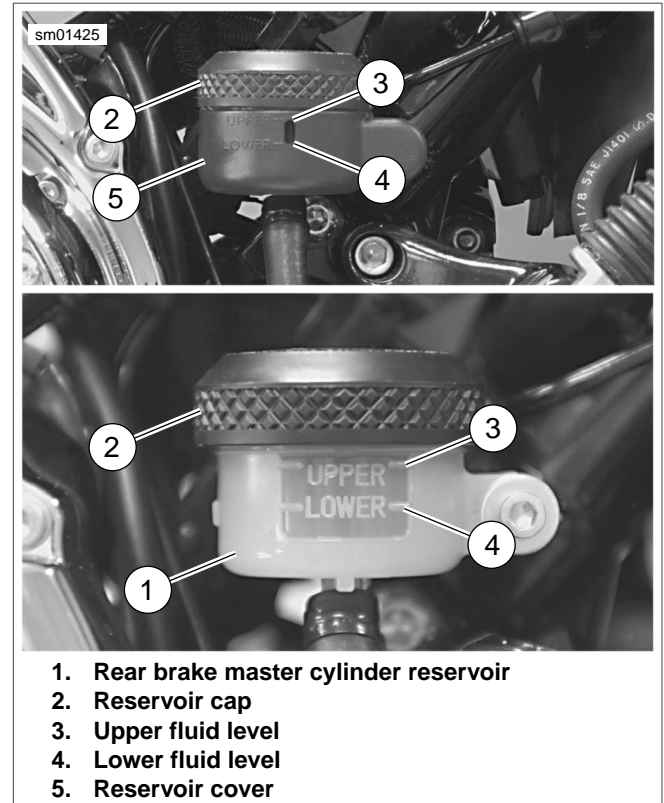
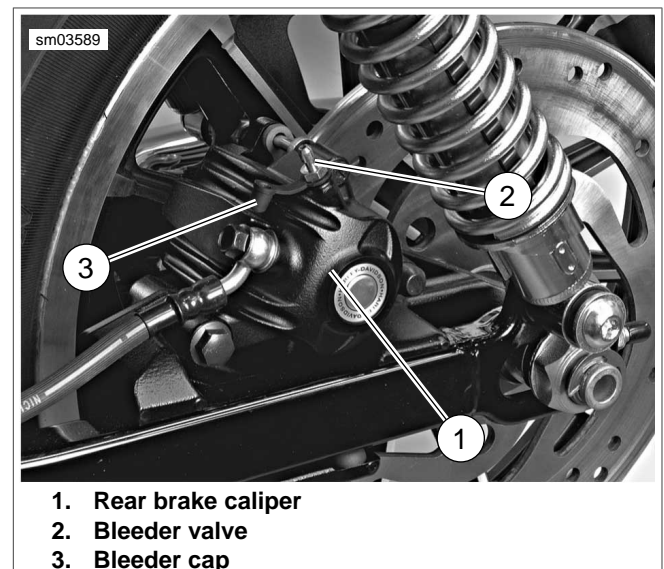

Figure 1-14. Rear Brake Master Cylinder Reservoir
Figure 1-15. Rear Brake Caliper
- See Figure 1-14. Vehicle must be upright so that rear brake master cylinder reservoir (1) is in a level position when filling and checking fluid level.
- Reservoir cover (5) may be removed from rear brake master cylinder reservoir to more easily verify fluid level in reservoir.
1. Position motorcycle upright (not resting on jiffy stand). See Figure 1-14. Unscrew and remove reservoir cap (2).
2. If desired, remove reservoir cover (5) by grasping cover and gently pull straight out from reservoir (1).
3. Add HARLEY-DAVIDSON D.O.T. 4 BRAKE FLUID to master cylinder reservoir (1) until the fluid reaches the upper fluid level (3).
4. See Figure 1-15. Remove bleeder cap (3). Install end of a length of 5/16 in. (7.9 mm) I.D. clear plastic tubing over caliper bleeder valve (2). Place free end of tube in a clean container.
9. See Figure 1-14. Add HARLEY-DAVIDSON D.O.T. 4 BRAKE FLUID to master cylinder reservoir (1) until the fluid reaches the upper fluid level (3).
10. Replace reservoir cap (2). Replace reservoir cover (5) if removed.